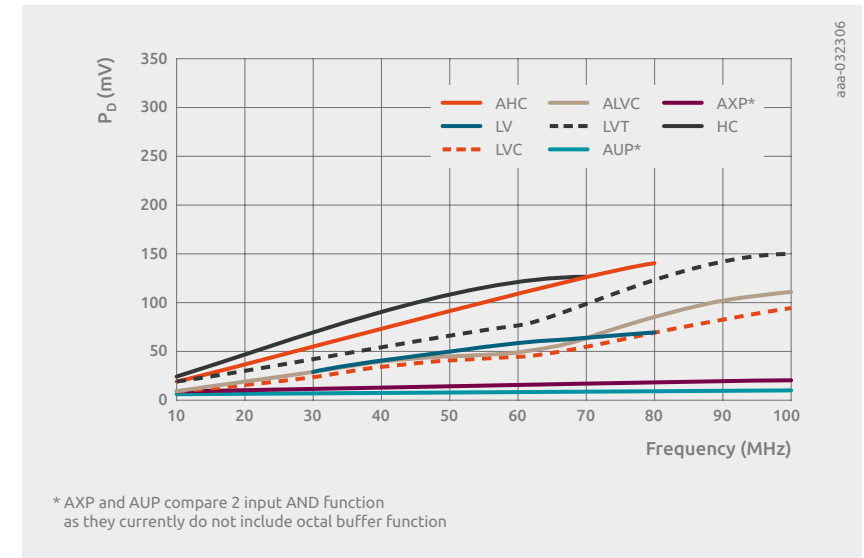

Figure 3.1 | Power consumption over frequency for various logic process families
It should be noted from the Equation (4), that C_{PD} is a useful parameter for determining power dissipation in any device for which power dissipation is a linear function of frequency. Figure 3.1 shows I_{CC} as a function of frequency for the devices listed in Table 1. From this we can conclude that for all CMOS and BiCMOS logic families C_{PD} can be used in order to determine the worst case power consumption of a device in a given application.